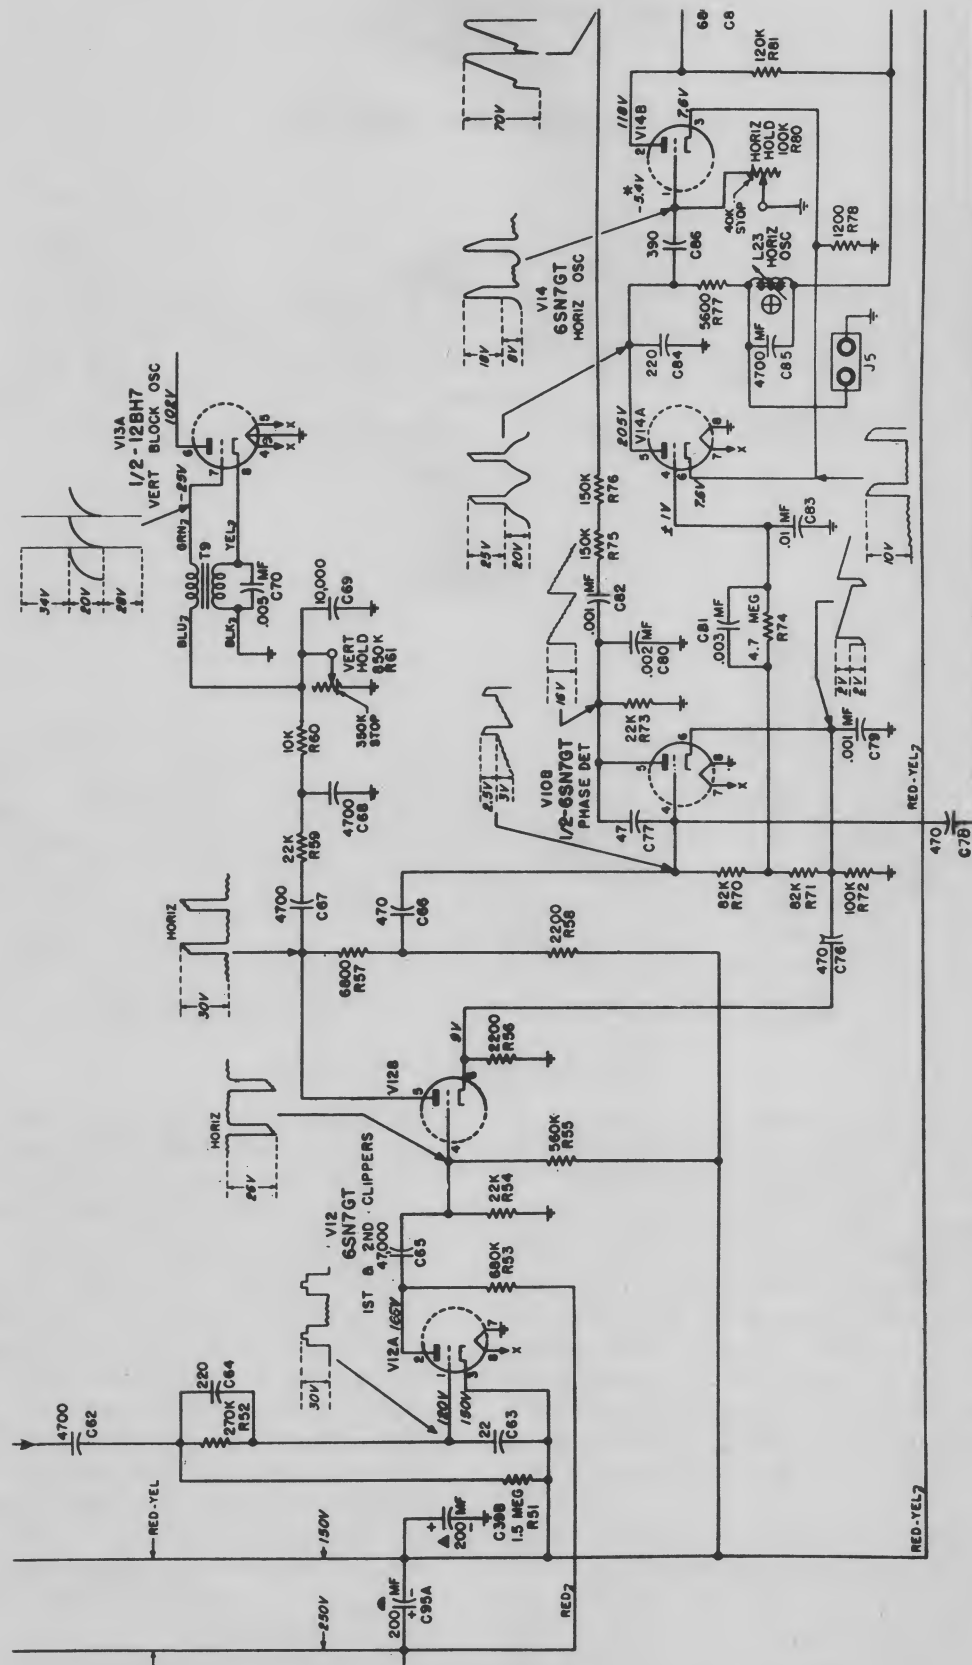

Fig. 5-1. Sync circuits: Motorola Model 21T4AC.
1. MOTOROLA MODEL 21T 4AC. Figure 5-1 is the schematic diagram of the sync amplifier and separator circuits used in a late Motorola chassis.
In the event of loss of both vertical and horizontal sync, the technician probes these circuits with an oscilloscope. Checks are made of both the amplitude and shape of the waveform and they are compared with those specified by the manufacturer (see Fig. 5-1). A more detailed discussion of troubleshooting these circuits will be given later.